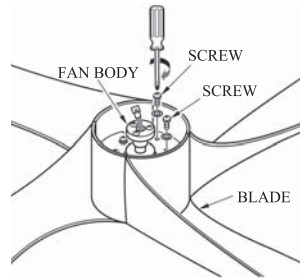

FIG.2
2. Flip the fan over, align the screw hole of blade with motor, secure the washer and screw again to finish the blade installation.(See Fig.2 )